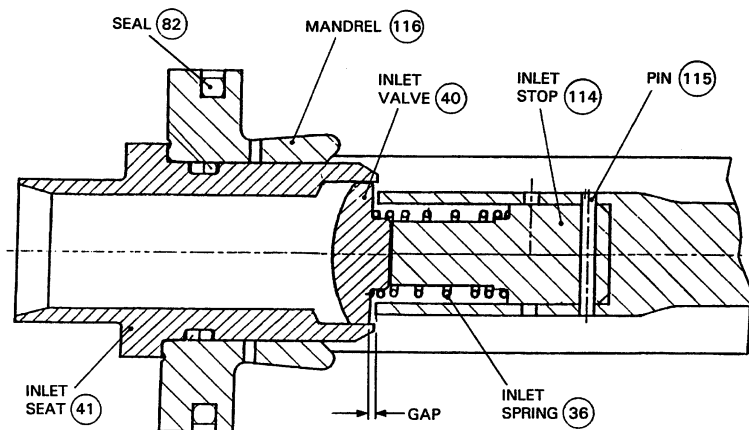
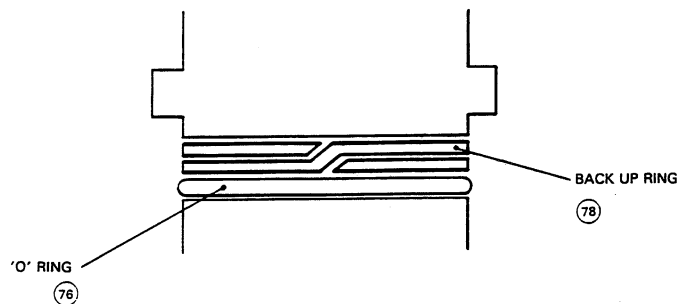

Fig 4.1 Mandrel Assembly
Fig 4.2 Inlet Valve Seat - Back Up Ring and 'O' Ring Fitting
7 During the pump overhaul procedures, reference should be made to the pump component and assembly drawings (Figs 4.1 to 4.6), which include associated parts lists, Also included are assembly drawings of the Mk 2 selector and safety relief valve (Figs 4.7 and 4.8).
8 In the following overhaul procedures, the item number that follows the description of a part refers to the assembly drawings (Figs 4.1 and 4.3 to 4.6).
- (1) Unscrew and remove Nuts (105).
- (2) Pull the Inlet Manifold (16) off its Studs (101).
- (3) Unscrew Inlet Nuts (43) using a 70 mm hogging spanner (part no 202-266), taking care not to damage Studs (101).
- (4) Insert a Drift (part no 201-043) into the end of the Mandrel, from delivery end. Tap the end of the Drift to remove Collar (42), Inlet Seat (41), Spring (36), Valve (40), Mandrel Assembly (38) and Diaphragm (37) from the inlet end of the Barrel.
- (5) Pull the Inlet Seat (41) from the Mandrel Assembly (38). Remove Valve (40) and Spring (36).
- (6) Using Extractor (part no 201-082), remove Diaphragm (37) from Mandrel Assembly (38). Inspect the Diaphragm for splits or holes, replace if necessary.
- (7) Inspect Spring (36), replace if necessary.
- (8) Inspect the seating faces of the Valve (40) and Seat (41). If either is badly pitted, chipped or unevenly worn, it must be replaced.
- (9) Inspect the Stop (114). With reference to Fig 4.1, check that when Valve (6) is against Stop (114) there is a gap between Valve and Mandrel. If there is no gap and Valve (6) is striking Mandrel (38) a new Stop must be fitted, as follows:
- (i) Using a 5mm diameter bit, drill into the Stop (114) to a depth of approximately 15mm and tap the hole using an M6 tap.
- (ii) Remove the Pin (115).
- (iii) Thread a 55mm long M6 screw into the tapped hole in the Stop (114).
- (vii) Using a flat punch, refit Pin (115) through Mandrel and Stop.
- (11) Inspect Mandrel Seal (82 - Fig 4.1). If it is damaged, replace as follows:
- (12) Place Spring (36) over Stop (114) and place valve (40) onto the end of Spring.
- (13) With reference to Fig 4.2, fit Back Up Ring (78) and 'O' ring (76) to Seat (41), and grease both. Ensure Back Up Ring is fitted as shown.